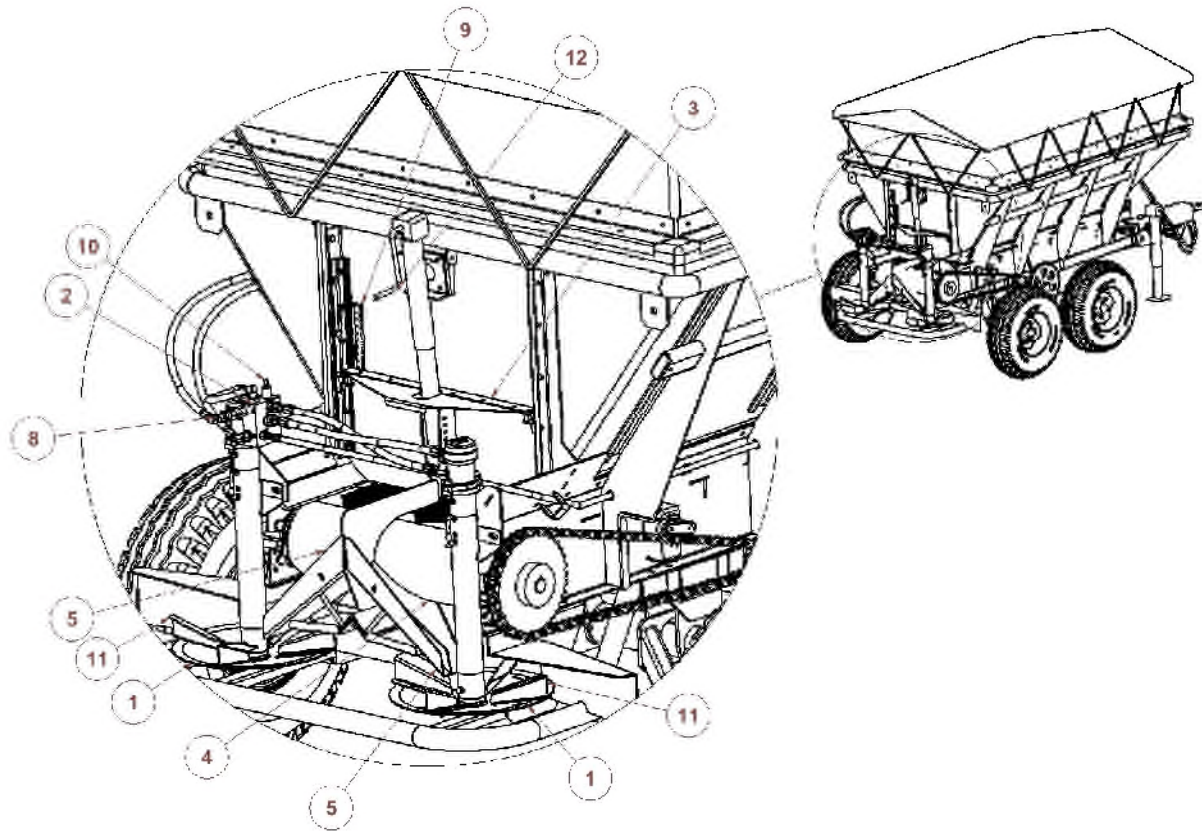
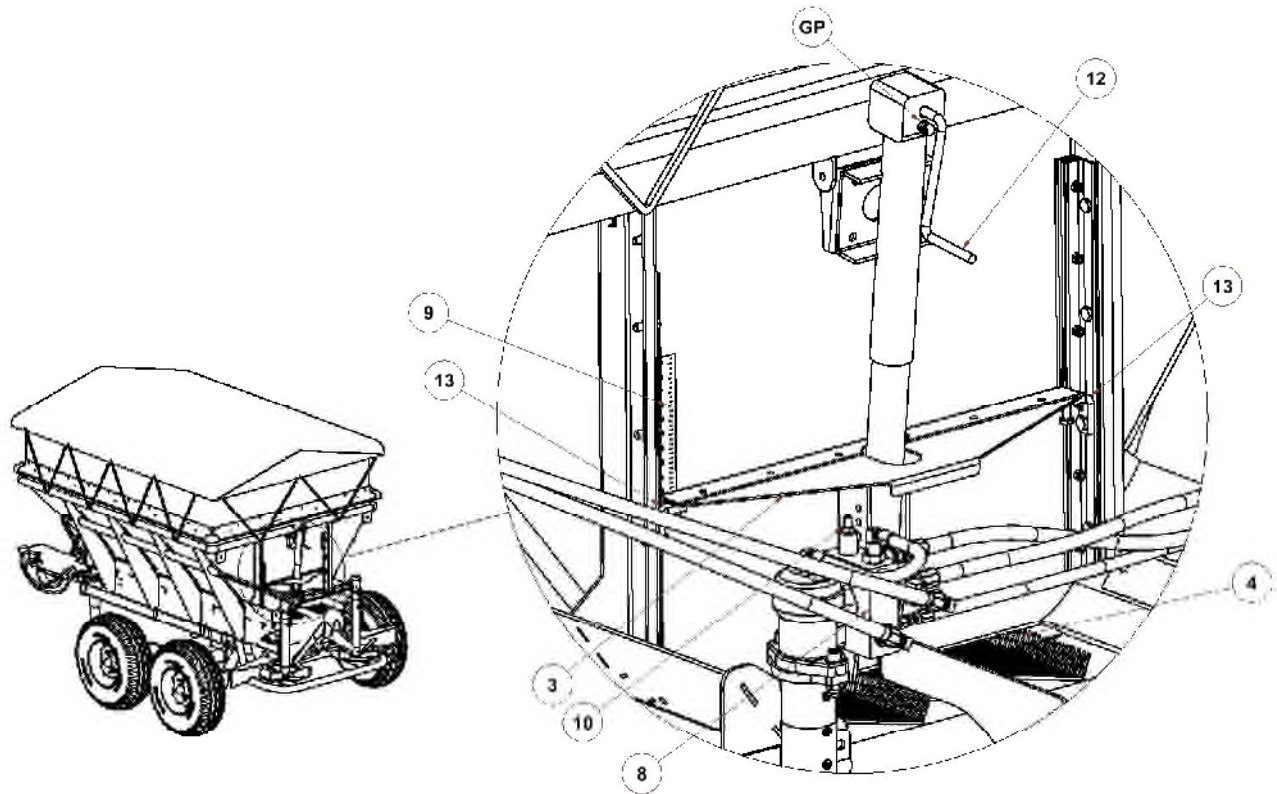

Figure 7 – Spreader Control
Figure 8 – Rear Shutter Control
- When the spinners (1) are engaged, hydraulic oil flows to the motors (1) via a control valve (2). Power from motors is transferred to the spinners via internal drive couplers within the spinner housings (Fig 7).
- The release of the fertiliser is controlled by vertical movement of the flow control shutter (3) (Fig 7). When engaged, fertiliser then falls from the belt (4) (fig 8) onto the two diverters (5) (Fig 7) directing fertiliser to the centre of two spinners (1) (Fig 7) which throws the fertiliser with the help of four directional flights (11) outwards to cover a span of at least 25 metres.
- The hydraulic system is both protected and controlled by the control valve assembly. Spinners speed and Pressure relief valve (10) (Fig 7) are factory set and should not need adjustment. A Non Return Valve (8) is installed to prevent inadvertent hose connection.
- The rear door shutter (3) is adjusted via the screw thread shutter control (12) and is manually operated by a handle (Fig 8).
- The volume allowed under the shutter (3) onto the belt (4) is indicated by a scale (9) on the end of the bin (Fig 8). Each segment on the scale indicates 100 Kgs per hectare (approx) or 1 cwt per acre (approx) relating to the spread rate for the 4000 spreader. The spread rate for the 6000 spreader is calculated at a multiple of 2.6 times that of the 4000 spreader rates.
- Stops (13) (fig 8) each side of the shutter are factory set to stop the shutter from contacting the belt. A minimum 2mm clearance between the belt (4) and lower edge of shutter (3) should be clearly visible throughout the entire belt rotation.